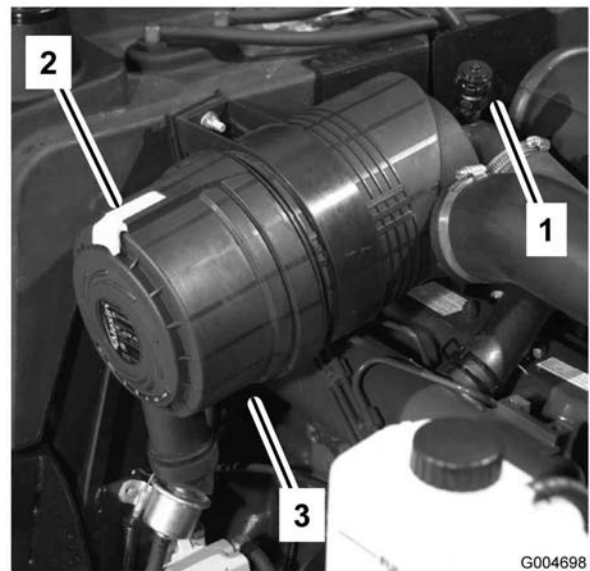

Figure 47
Service the air cleaner filters when the air cleaner indicator (Figure 47) shows red or every 400 hours (more frequently in extremely dusty or dirty conditions). Do not over-service the air filter.
1. Pull the latch outward and rotate the air cleaner cover counterclockwise. Remove the cover from the body (Figure 47). Clean the inside of the air cleaner cover.
6. Reset the indicator (Figure 47) if it shows red.